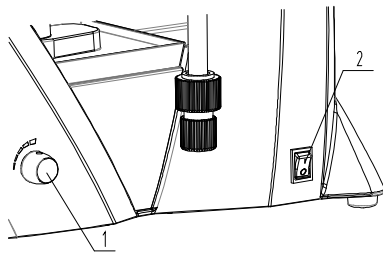

Fig. 5 Power Switch
3.1.1 Turn On Light Source (Fig. 5)
- a. Turn potentiometer knob ① to the minimum, turn on power switch to ② position I (ON).
- b. Rotating potentiometer knob ① to increase and decrease brightness for good illumination .